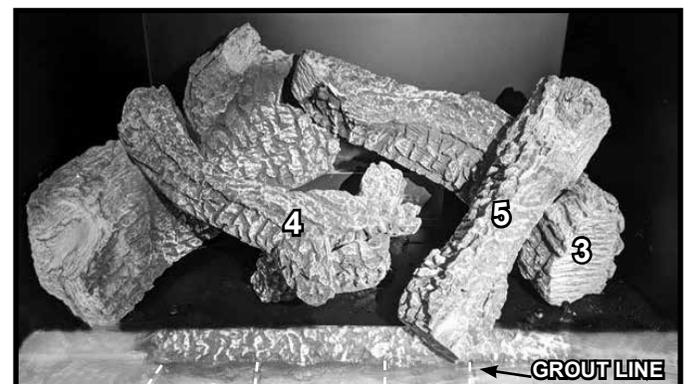

Figure 16 Log #5 Installed
**LOG #5:** The non-burnout end of log 5 will sit on the flat spot of log 3. The corner of the other end will sit on the base refractory grout line. See Figure 16.